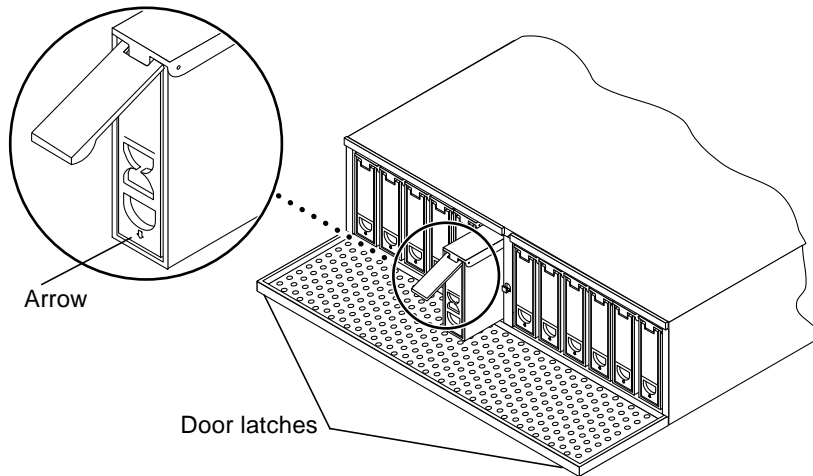

FIGURE 4-1 Removing and Replacing a Disk Drive
Release the two front panel catches by turning a quarter turn, then pull the door downwards (FIGURE 4-1).
3. **Unlatch the drive bracket handle to release it (FIGURE 4-1).**
1. **Hold the locking handle on the disk drive open (FIGURE 4-1).**